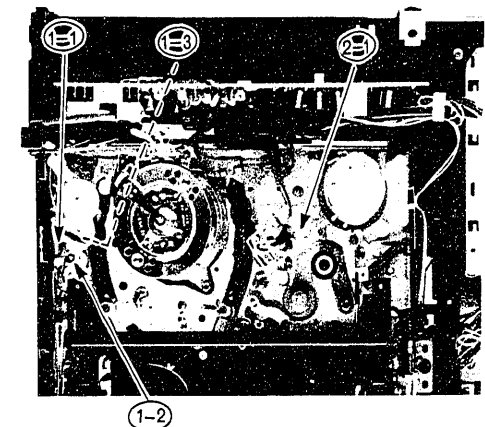

Fig. 22 FE Head, A/C Head
1. FE Head (Fig. 22)
2. A/C Head (Fig. 22)